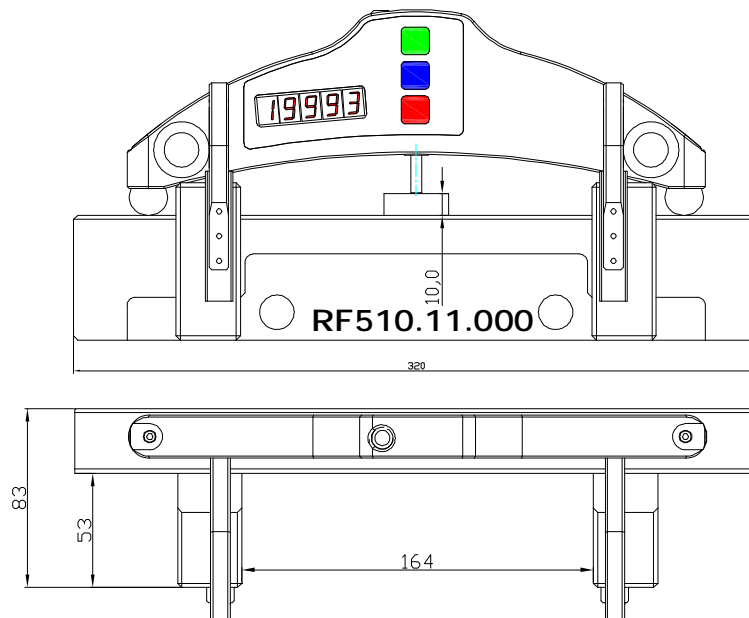

Figure 4
- Calibration plate with the deviation from flatness less then  $\pm 0,5$   $\mu\text{m}$  for 250 mm length (or Flat block RF510.11.000, figure 4);